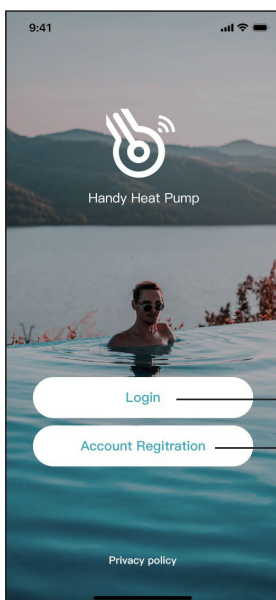
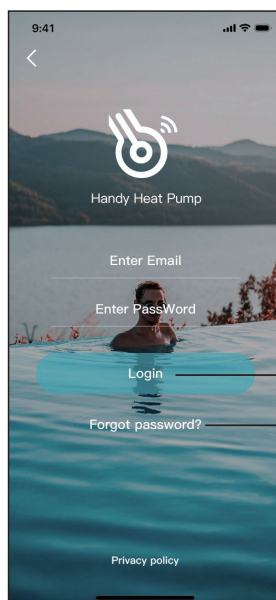
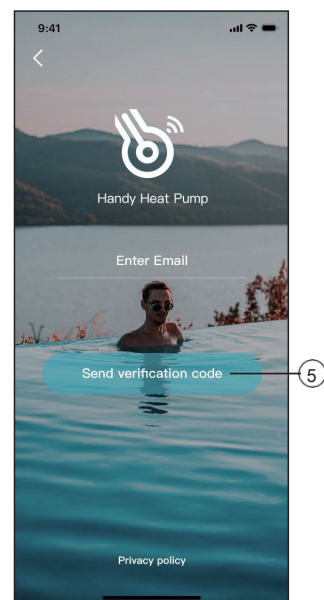

Fig.1 Home page
Fig.2 Login interface
Fig.3 Register and retrieve passwords
1. Account registration: Click ① (Fig. 1) on the home page to jump to the account registration interface (Fig. 3).
2. Login: Click ② (Fig. 1) on the home page to jump to the login interface (Fig.2) and follow the instructions on the page (as shown in the figure).Enter your registered email address and password, and click ③ to jump to the device list.
3. Forgot Password: When you forget your password, click ④ (Fig.2) and jump to the password forgotten interface (Fig.3). Fill in the relevant information according to the page instructions, click ⑤ to send the email verification code, and operate according to the page instructions.